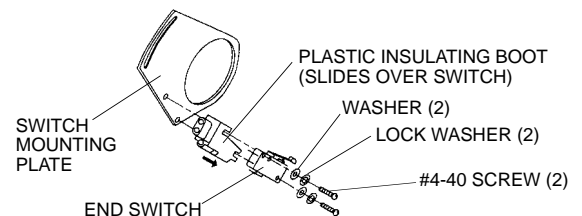

FIGURE 2 - END SWITCH AND INSULATING BOOT ASSEMBLY
3. Assemble the end switch and plastic insulating boot (See Fig. 2). Attach the end switch and plastic insulating boot to the switch mounting plate with the two #4-40 screws, two washers and two lock washers provided with the end switch assembly.